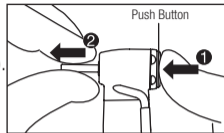

Fig. 4
Depress the Push Button to open the chuck ( ❶ ) and remove the bur ( ❷ ) (Fig. 4).